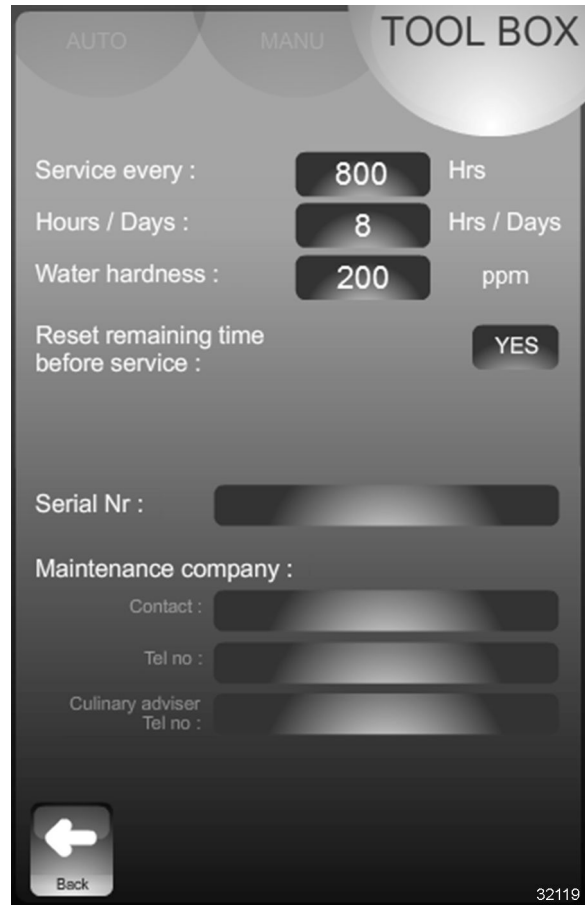

Fig. 93
2. Set / change installation parameters (Fig. 93) by either: